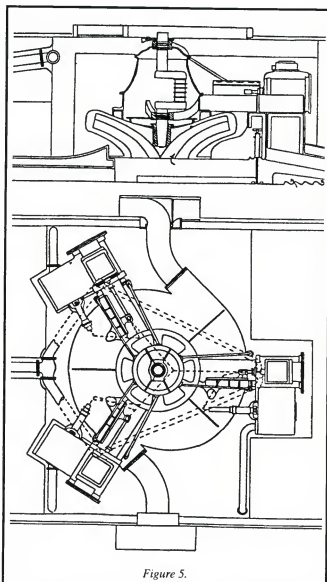

Figure 5.
*Waterwitch* was a gunboat 162ft long, 32ft beam and 1161 tons displacement. The power plant consisted of a three cylinder engine with an impeller mounted directly onto the crankshaft. Figure 5 shows the arrangement.